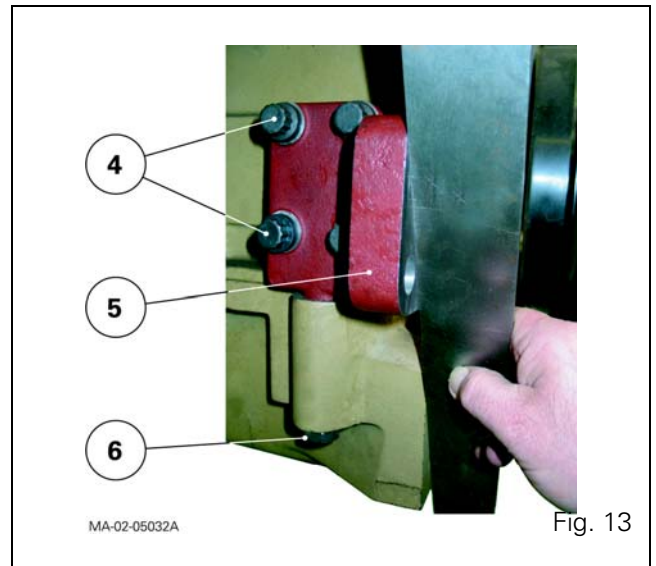

Fig. 13
For tractors fitted with a Perkins six-cylinder engine, check with a ruler prior to assembly that the supports (5) are in line with the front face of the lower engine housing (Fig. 13). If they are not, adjust the support(s) until they are correctly aligned. Tighten the screws to:
- (4) 240 - 320 Nm (Loctite 270 or equivalent),
- (6) 240 - 320 Nm.